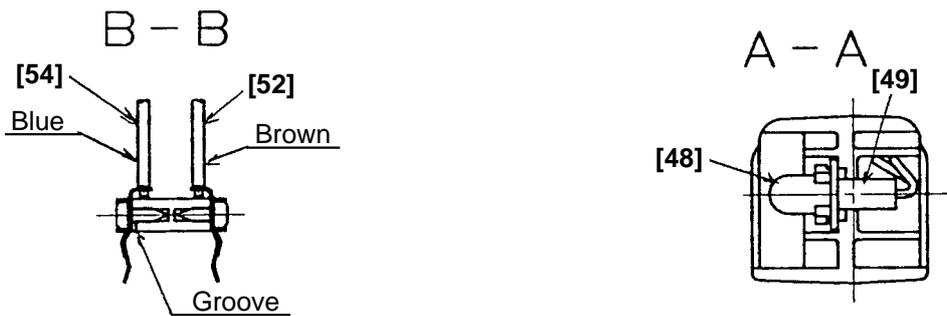

Fig. 8
(c) Connect the internal wires as illustrated in Fig. 8. Mount the Knob [44], Terminal (A) [43] and Spring (F) [42] without fail.